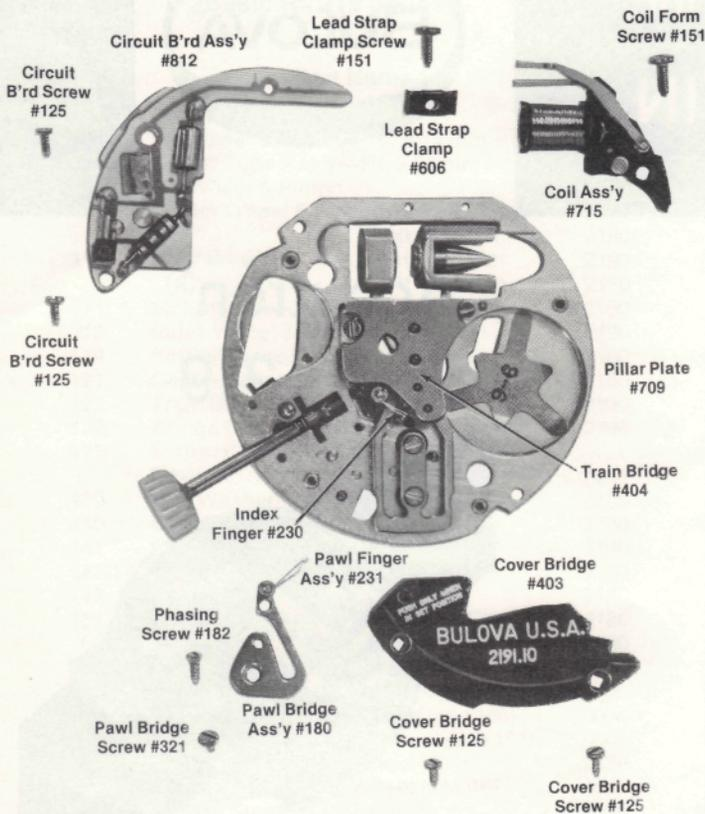

Figure 2. Exploded View
- It is not necessary to completely disassemble the Series 219 when cleaning the movement. However, it is necessary to remove the calendar indicators, coil assembly (part #715), and the P.C. (Printed Circuit) Board (part #812) before cleaning the movement. Parts #715 & #812 can be removed and replaced without disturbing any other part of the movement. Fig. 2.